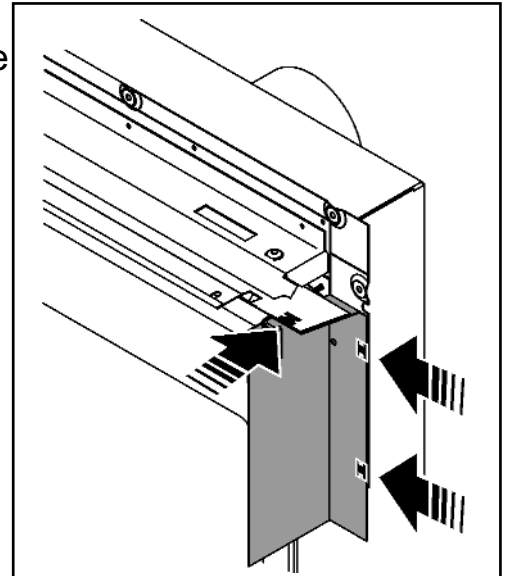

Figure 38. Fitting the baffle
- Supplied with the fire is a controls heat baffle and three edge clips. These must be fitted to the heat engine before fitting the Chic fascia. Locate and secure the baffle as in figure 38.